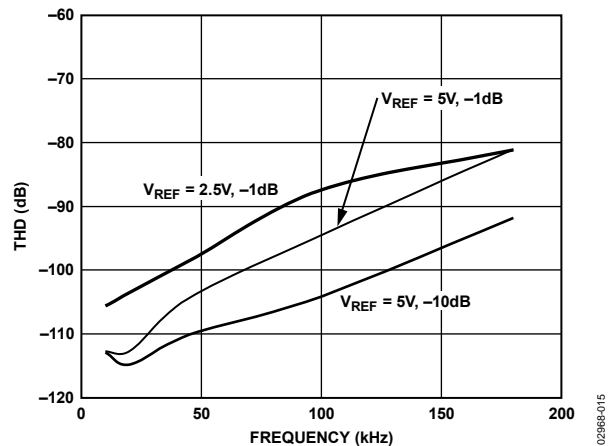

Figure 17. THD vs. Frequency
- For ac applications, the driver should have a THD performance commensurate with the AD7685. Figure 17 shows the AD7685's THD vs. frequency.